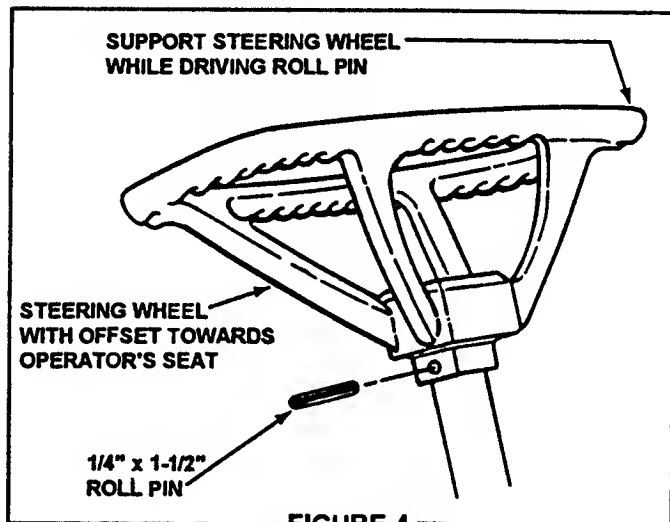

FIGURE 4
- (b) Support steering wheel and drive the 1/4" x 1-1/2" roll pin into steering wheel and steering shaft. See Figure 4.